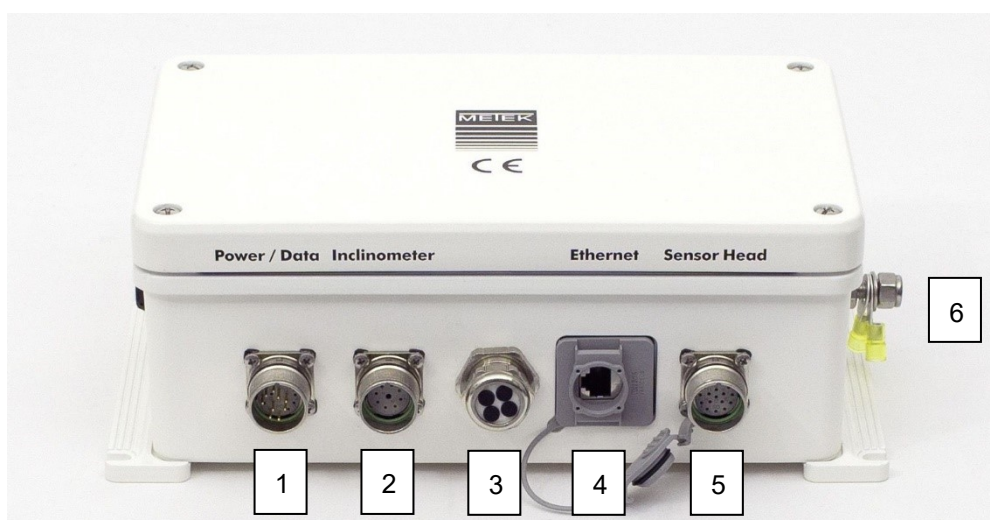

fig. 6: sensor electronic and cable connections (all without caps)
- The sensor electronic is housed in a white metal box with 5 inlets (see fig. 6) with: